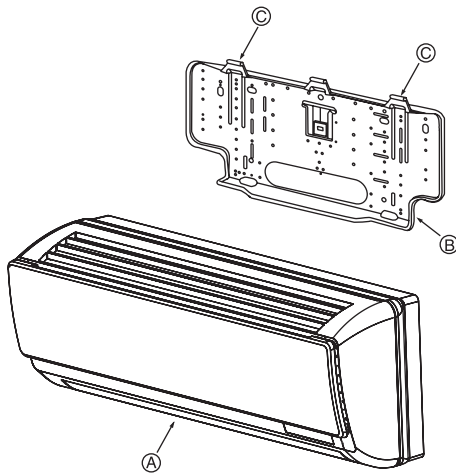

Fig. 3-8
3.3. Mounting the unit (Fig. 3-8)
- ① Securely place the hanging fixtures for the indoor unit over the catches on the wall mounting fixture.